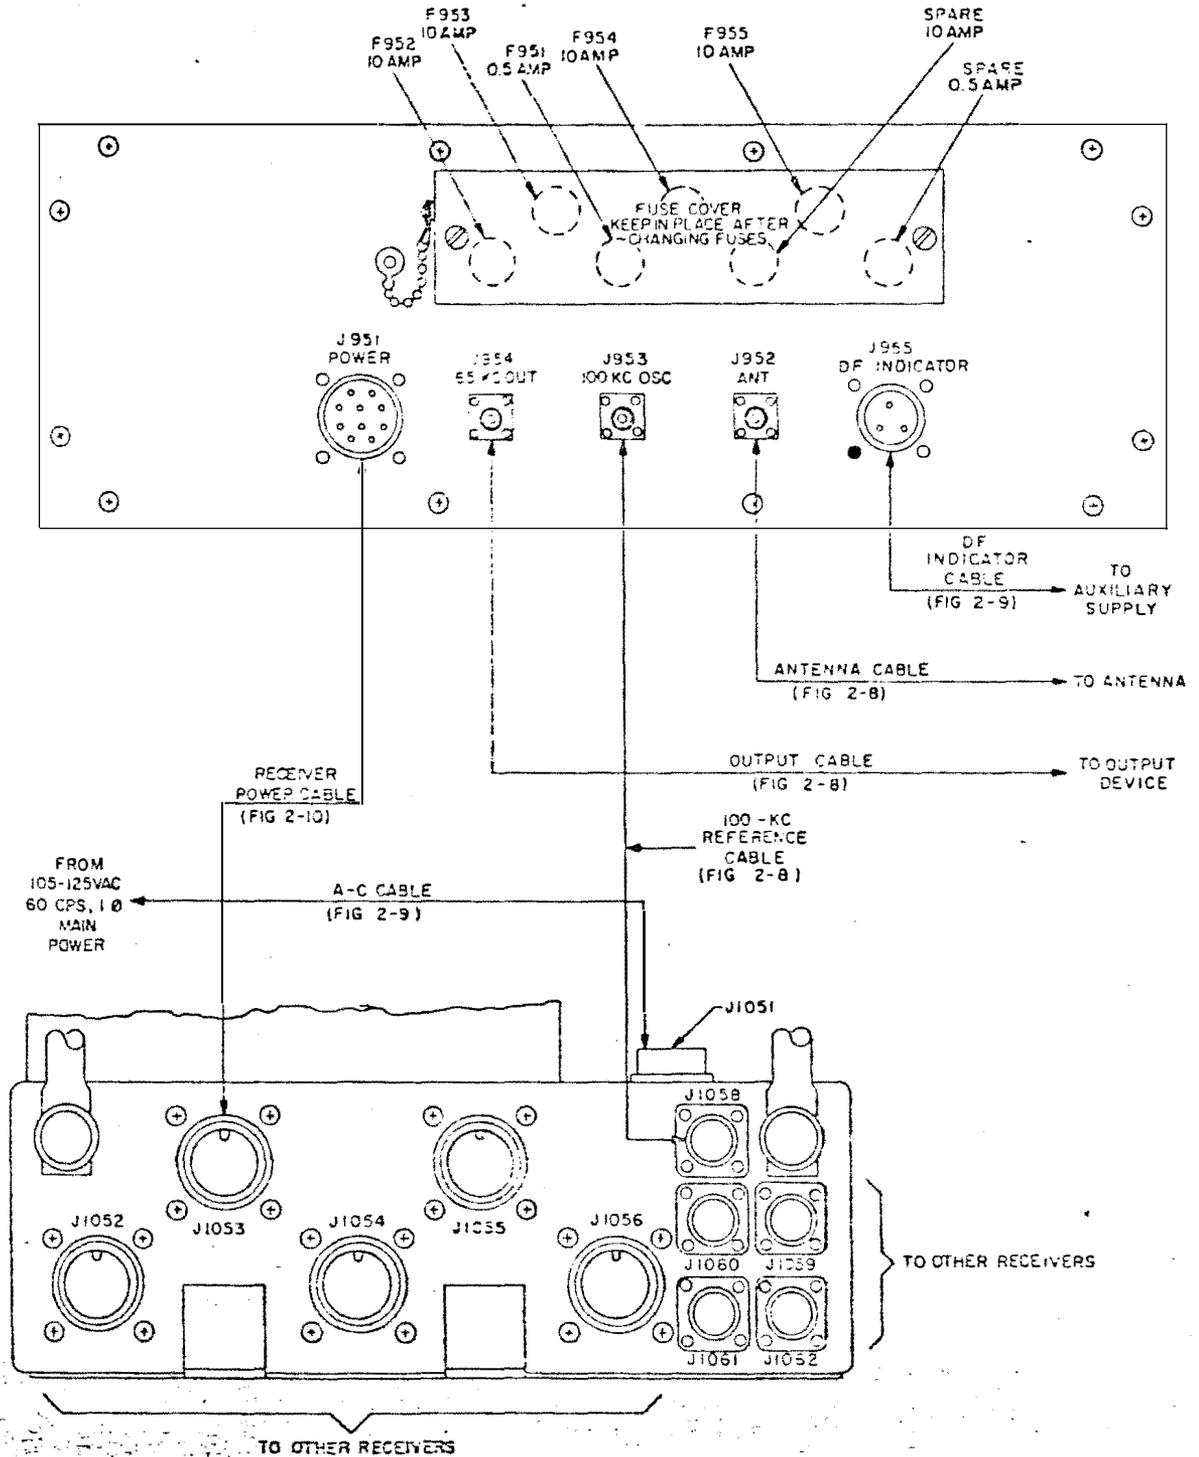

Figure 2-7. External Cable Connections
- b. PRIMARY CONNECTION. - To apply primary a-c power to the O-928/FLR, a female connector must be attached to power cabling of the correct rating. This connector mates with a male fitting, designated J1051, on the chassis. (See figure 2-7.) Fuse F1051 protects the supply in the event of current overload, and a power ON-OFF switch (S1051) mounted on the supply chassis applies or removes power to the equipment.
e. CABLE CONNECTIONS. - All units are shipped installed in their respective cabinets and external cables are provided; however, if replacements are unavailable replacement cables can be fabricated from the following information. Refer to NAVSHIPS 94557 and 94565 for external cable connections and other pertinent cabling information. External cable receptacles are located on the R-1125/FLR rear panel and on the O-928/FLR chassis, as shown in figure 2-7. Table 2-1 contains a summary of the types and functions of all external plugs and their mating receptacles.
(2) INTERNAL CONNECTIONS. - Figure 2-7 shows all internal connections as well as external connections between the R-1125/FLR and O-928/FLR. To complete these connections, proceed as follows:
(3) EXTERNAL CONNECTIONS. - External connecting cables are installed as shown in figure 2-7. To complete these connections, perform the following: